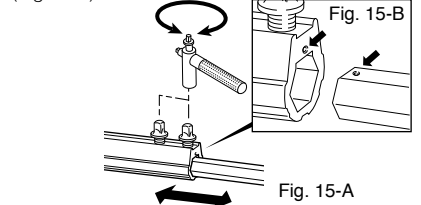

Fig. 15-A
**Tip :** If the Drive Shafts are extended too far, they will separate from the Center Connecting Tube. Reassemble them with the dots aligned as shown in Fig.15-B.